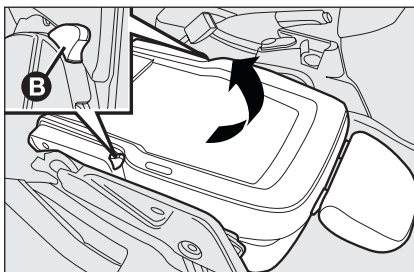

fig. 25
- ☐ grab the levers **B-fig. 25** and lift the backrest further more up.